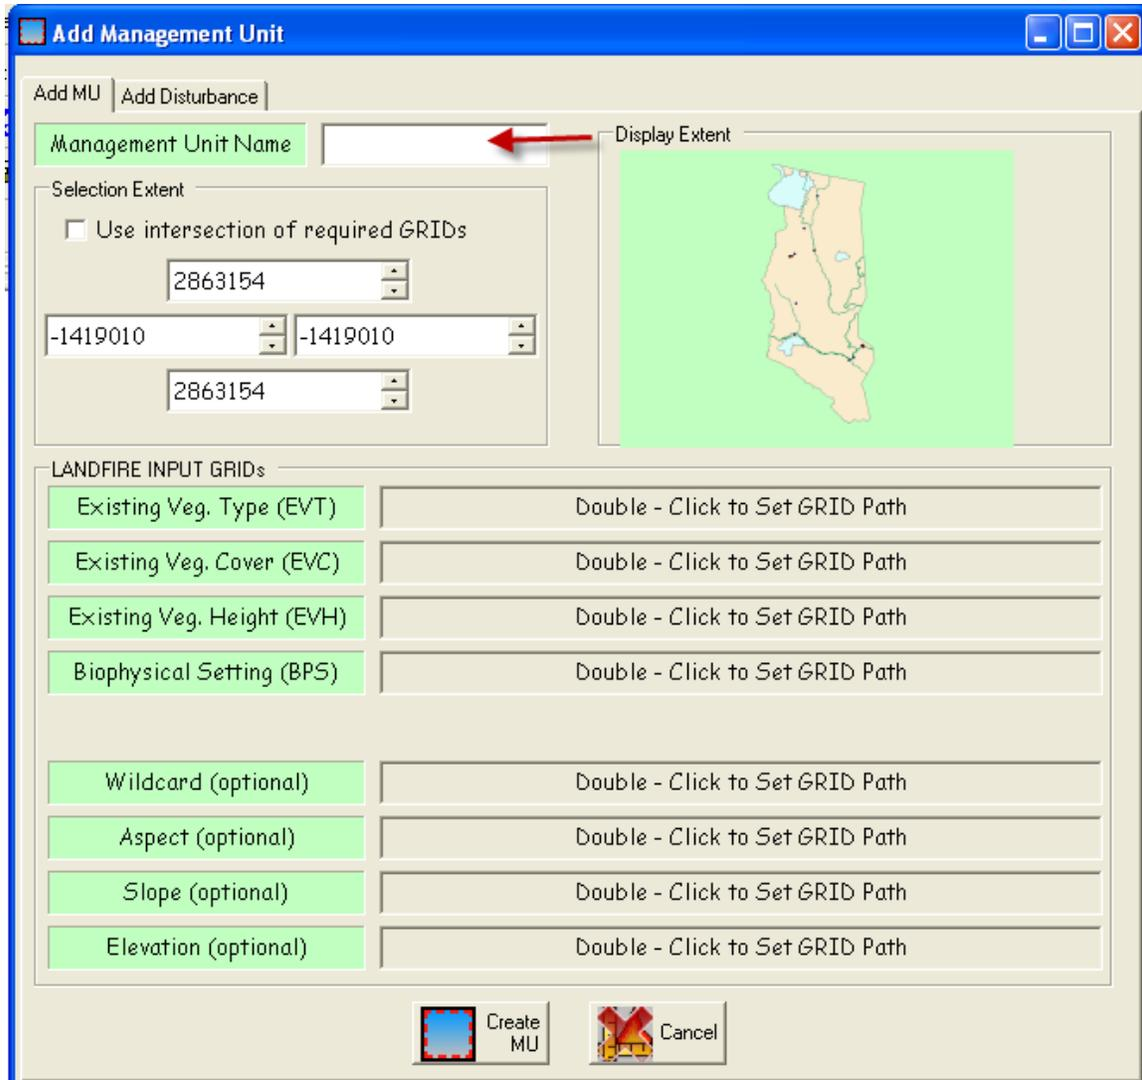

Figure 7-16. **Add Management Unit** dialog box.
The **Add Management Unit** dialog box shown below opens (fig. 7-16). It serves as a drawing rectangle which is used to identify the spatial extent of the area to be analyzed or to define the Management Unit. In ArcMap, the icon works the same way as any tool used to define an extent.
- When you have finished all entries for both tabs on the **Add Management Unit** dialog box, click the **Create MU** button at the bottom of the **Add MU** page (fig. 7-16).